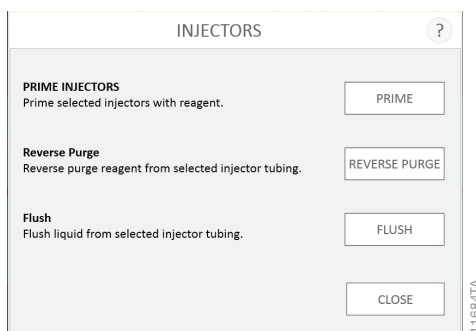

Figure 115. Injector functions (prime, reverse purge and flush).
5. Tap the **Prime** button shown in Figure 115. The door will open.
1. Tap the **Reverse Purge** button on the 'Injectors' screen (Figure 115). The door will open.
2. Tap the **Flush** button on the 'Injectors' screen (Figure 115). The door will open.